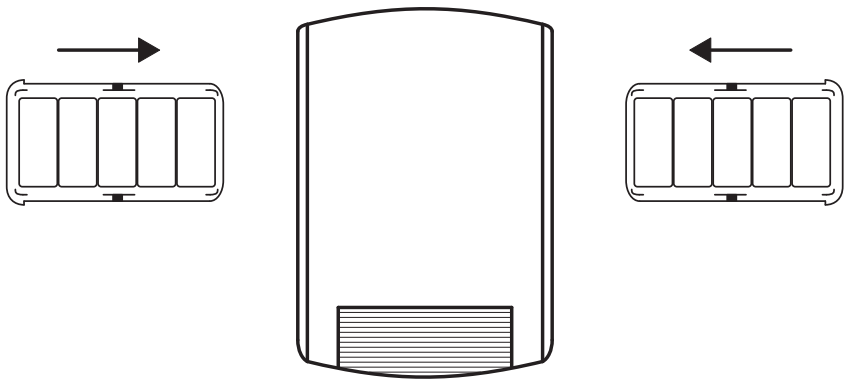

fig 5
- The filter can be removed and inserted on the right or left, figure 5.